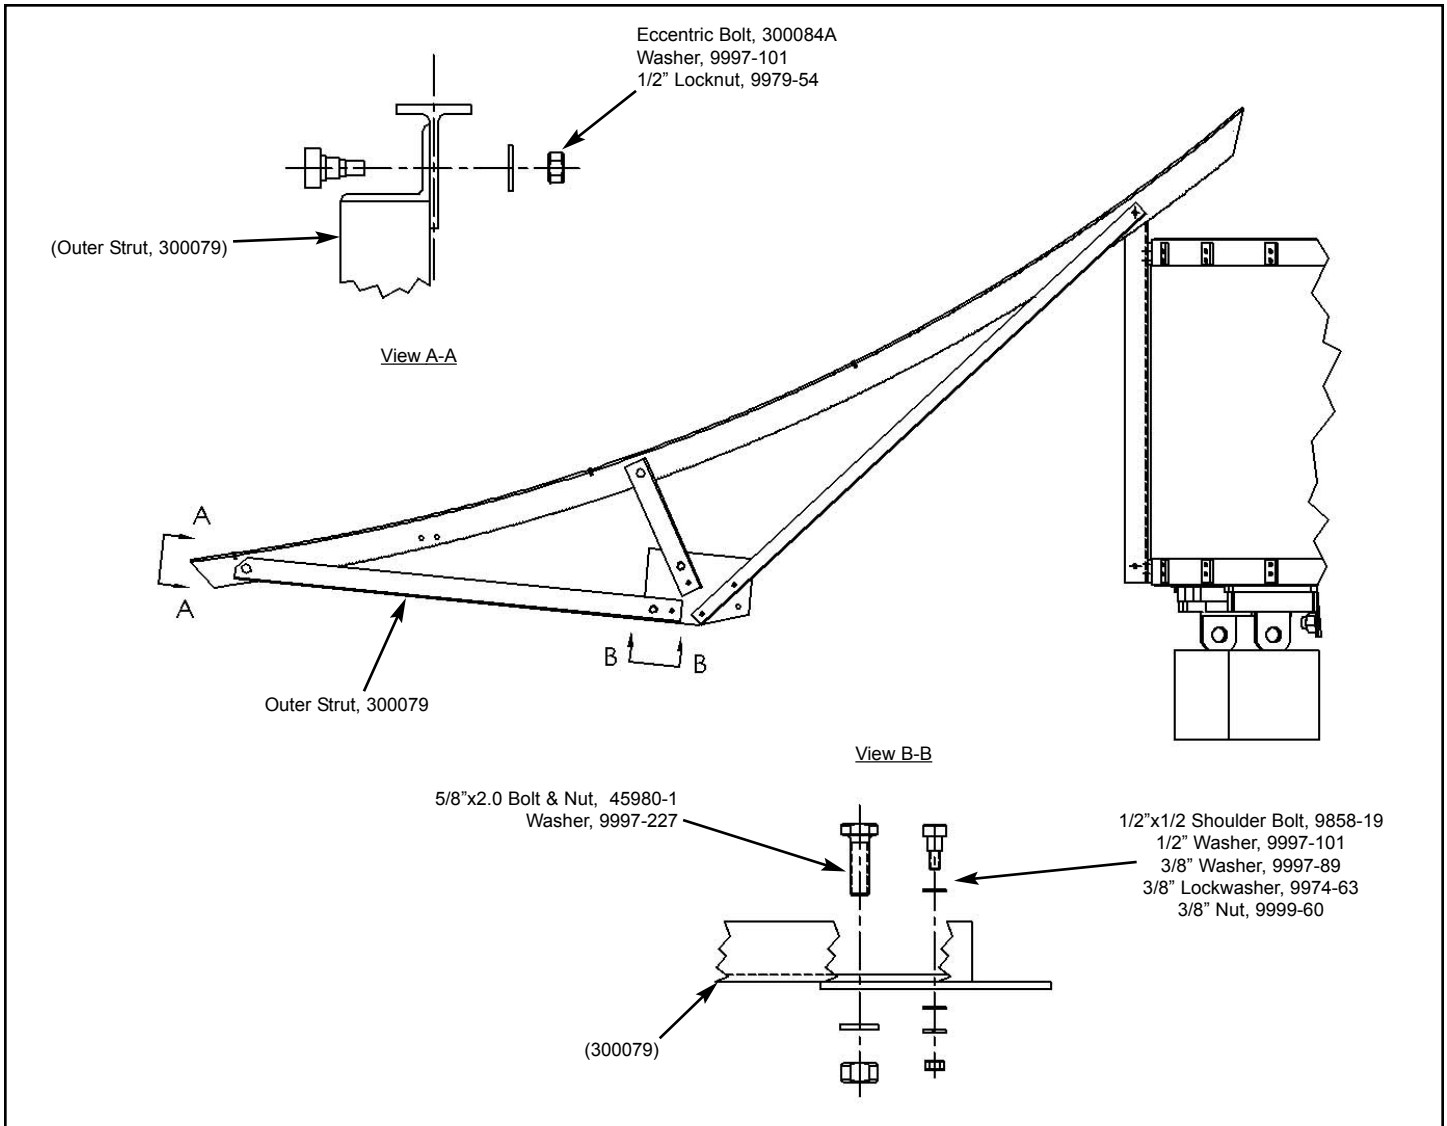

Figure 13
Step 4 | Install Outer Strut to assembly as shown in Figure 13. Leave hardware loose.